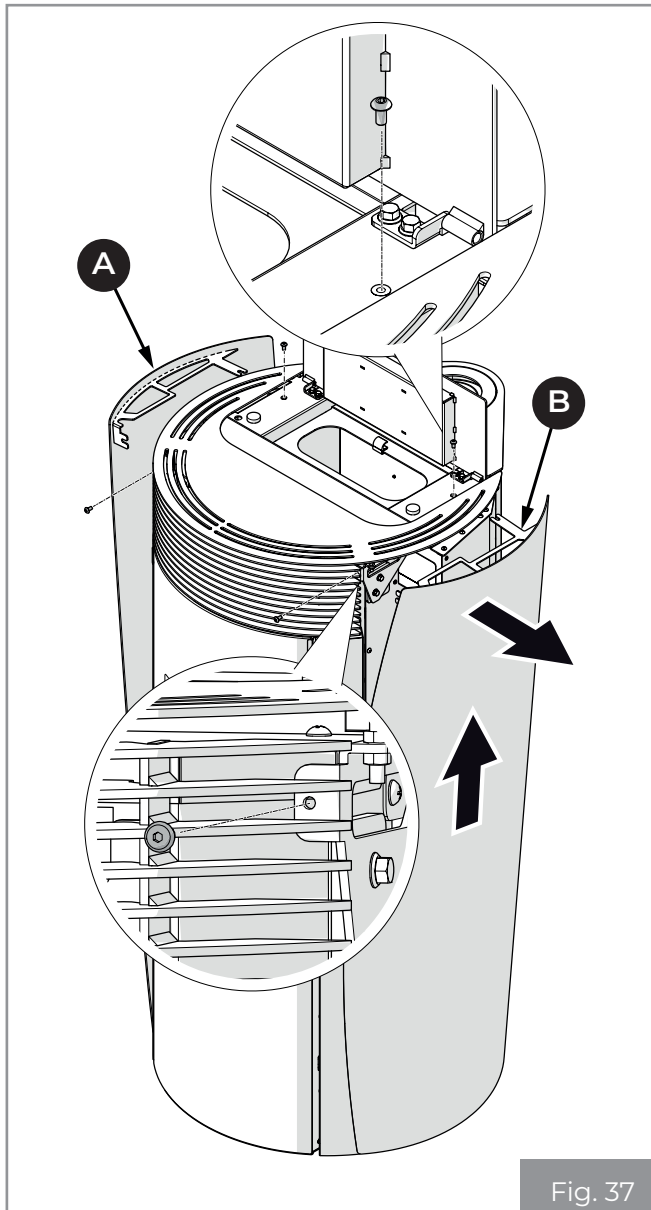

Fig. 37
- Remove the sides **(A)** and **(B)** (**Fig. 37**).